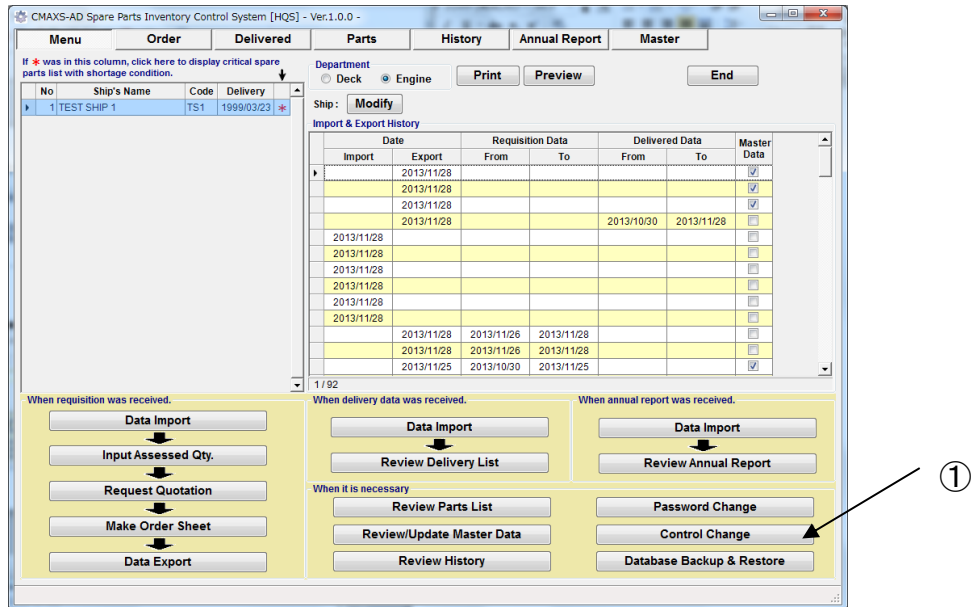

Fig.17-1 Menu Screen
(1) Select [Control Change] button on the "Menu Screen" (Fig.17-1).